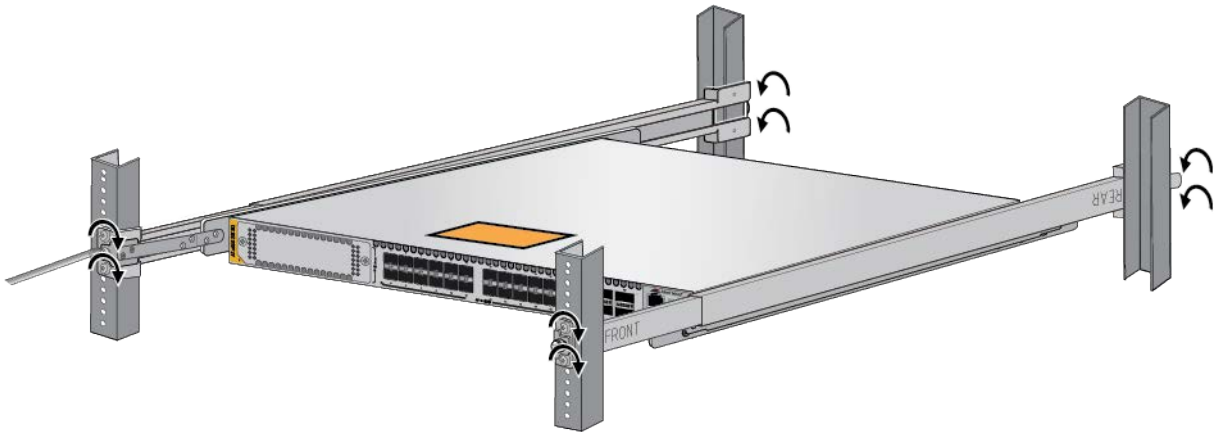

Figure 90. Tightening the Screws on the Outer Rails
5. Finish tightening the eight screws on the outer rails to secure the rails to the equipment rack. See Figure 90.